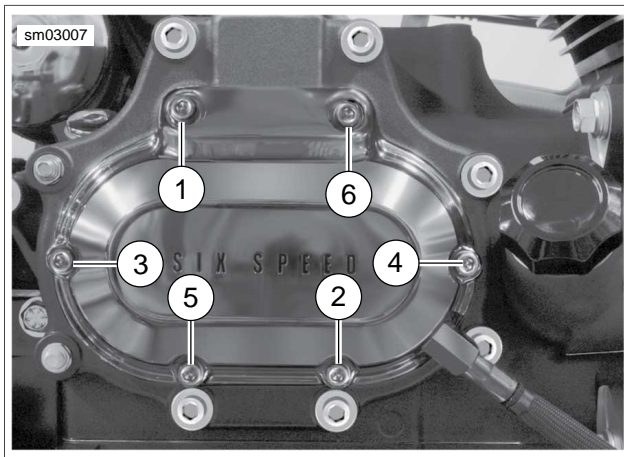

Figure 7-3. Cover Screws
4. See Figure 7-3. Remove the six screws that hold the clutch release cover in place. Remove the clutch release cover and discard the gasket.
5. Install retaining ring (6).
6. See Figure 7-3. Verify that two dowel pins are in place on transmission side door flange. Place a **new** gasket on dowel pins.